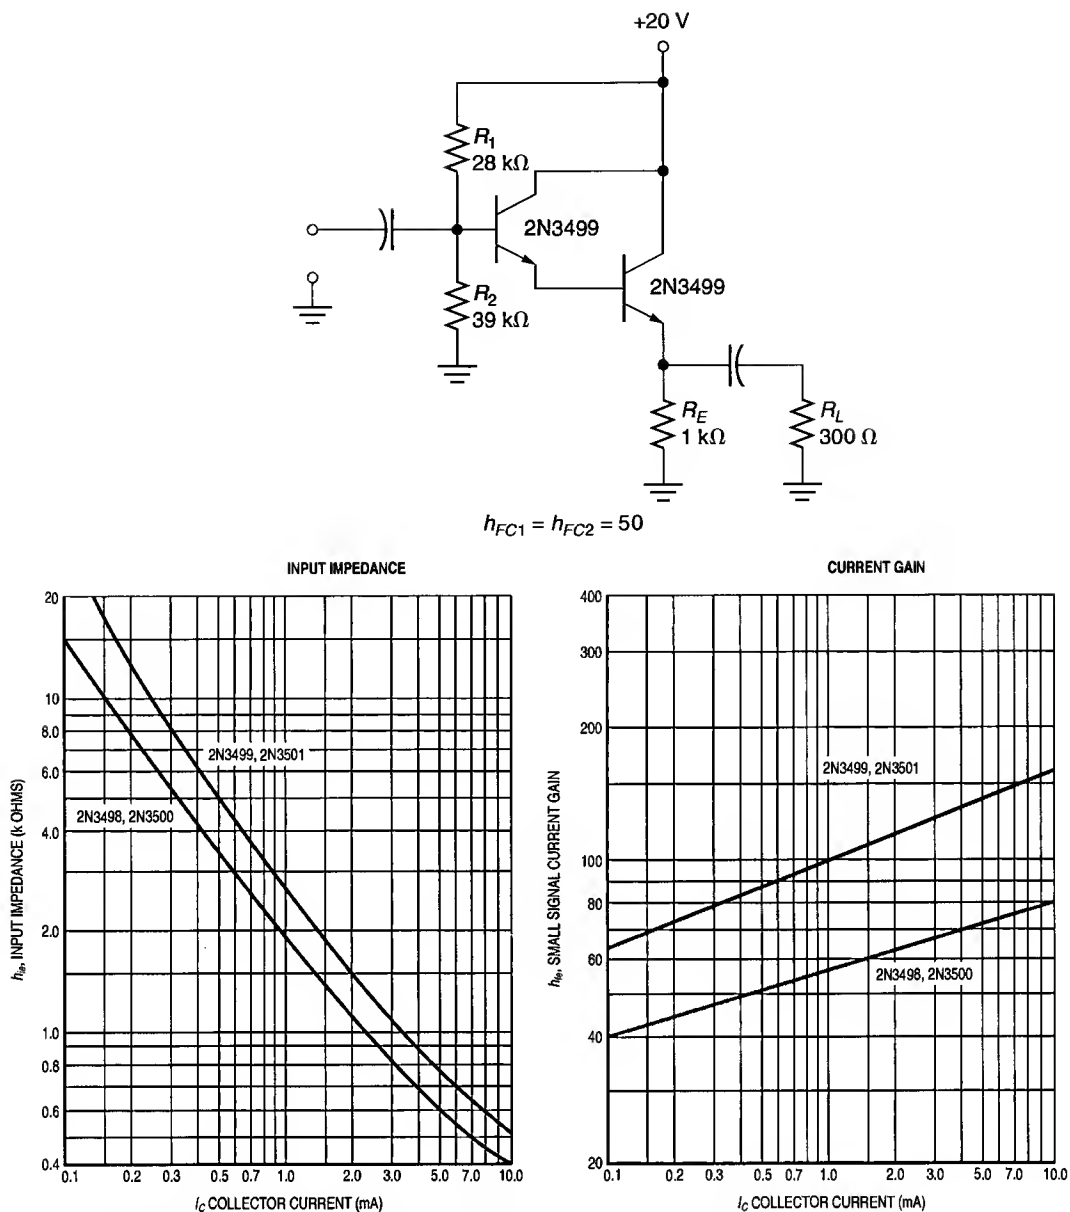

FIGURE 10.35 (Copyright of Semiconductor Component Industries, LLC. Used by permission.)
36. Determine the values of A_i , Z_{in} , and Z_{out} for the amplifier in Figure 10.35 using the “quick” analysis equations. The h_{ie} and h_{fe} curves for the two transistors are shown in the figure.